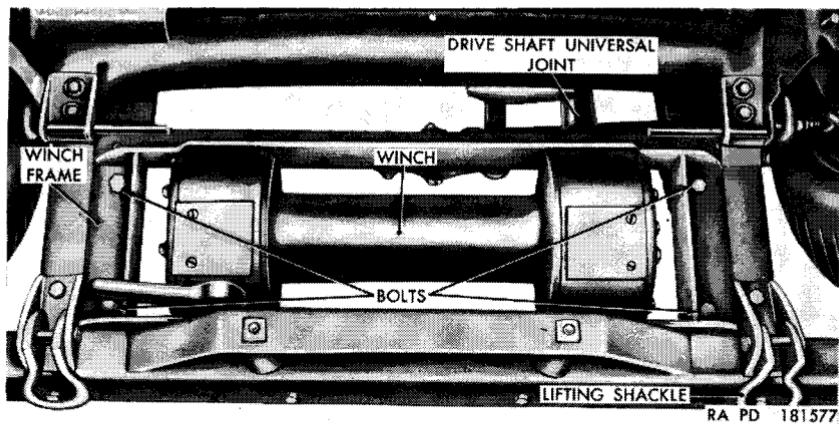

Figure 81. Winch installed.
a. *Description.* The horizontal drum-type winch assembly is mounted between the frame side members at the front of the vehicle as shown in figure 81. The winch is driven from the power-take-off (par. 202) on the rear of the transfer through a system of shafts and universal joints.
- (1) Loosen the setscrew (Z) securing the universal joint to the shaft of worm gear (A). Slide the long drive shaft (C) with universal joint toward the rear of the vehicle into the universal slip joint assembly (D) and off the shaft of worm gear and the key. Lower to floor.
- (2) Remove the four bolts (fig. 81) and lockwashers securing the winch frame to the frame support brackets, and raise the winch with frame up and out of the vehicle.
- (1) Position the winch with the winch frame (fig. 81) on the frame support brackets and aline the holes in the frame with the holes in the brackets. Place a $\frac{1}{2}$ -inch lockwasher over each of the four $\frac{1}{2} \times 1$ bolts. Insert the bolts with washers through the holes in the winch frame and screw into the frame support brackets.